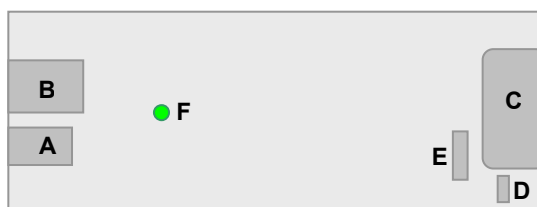

Figure 1: Connectors
To use BLKBOX you have to connect power (Figure 1 "A") and USB computer interface (Figure 1 "B"). Connect the CPflight modules (radios MIP737 board etc.) to the 5 pole connector (Figure 1 "C").
- Connect the power supply to the BLKBOX. The BLKBOX is provided with an universal supply adapter that accept a voltage of 100 to 240Vac. Connect the DC plug to the "A" socket (Figure 1 "A") and plug the adapter to a main supply socket.
- Connect the USB cable to the BLKBOX USB connector (Figure 1 “B”) and the other side to a free USB port of your computer; the computer have to be switched on when you connect the BLKBOX for the first time. The driver installation procedure will start automatically; follows the instruction on the screen (note that the figure of the below example may be different depending by your operating system):